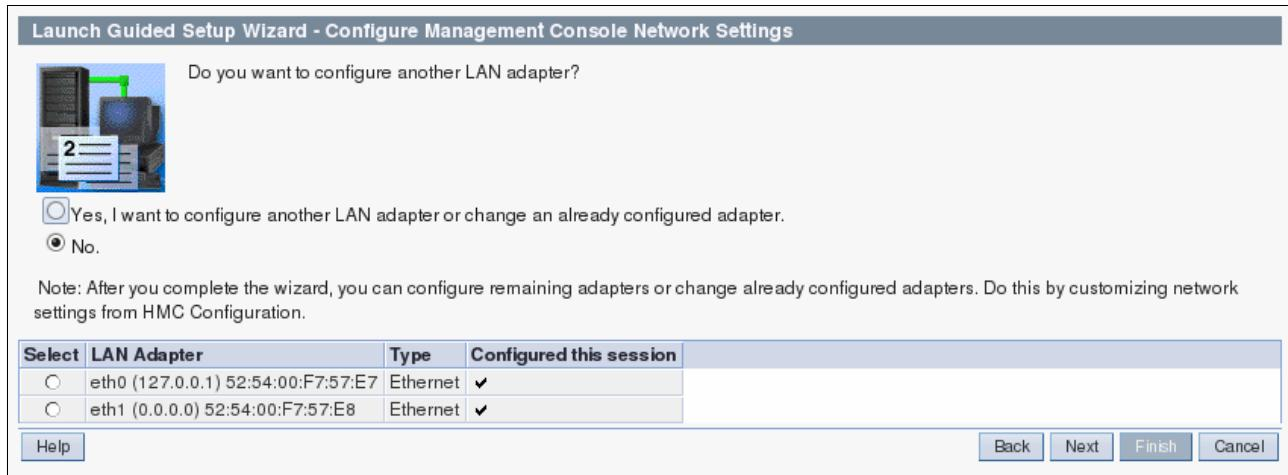

Figure 3-98 HMC Network Settings finished
27. You have now completed the network settings. Choose not to configure any other adapter (Figure 3-98), and then click **Next**.